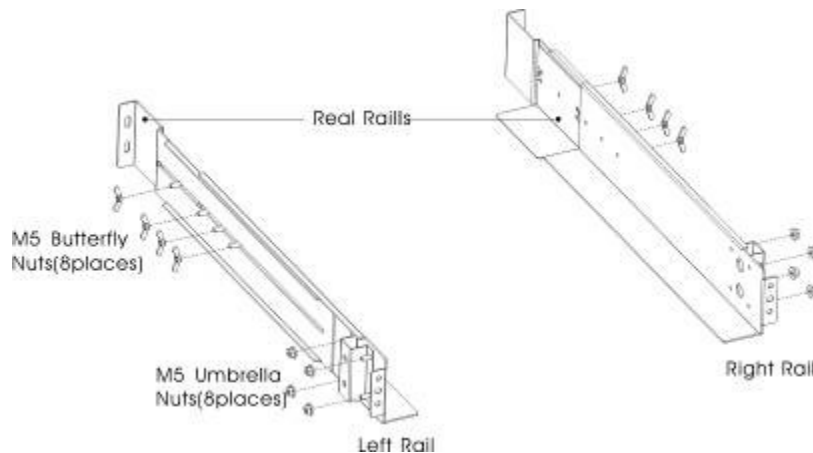

Figure 1 Securing the Rails
- If installing optional EBP(S), make sure to install the EBP(S) directly below the UPS so that all wiring between the cabinets is installed behind the front covers and inaccessible to users.
(1) To install the rail kit
- Assemble the left and right rails to the rear rails as shown in Figure 1. Do not tighten the screws.
- Tighten four M5 Umbrella Nuts in the side of rail assembly (see Figure 1).